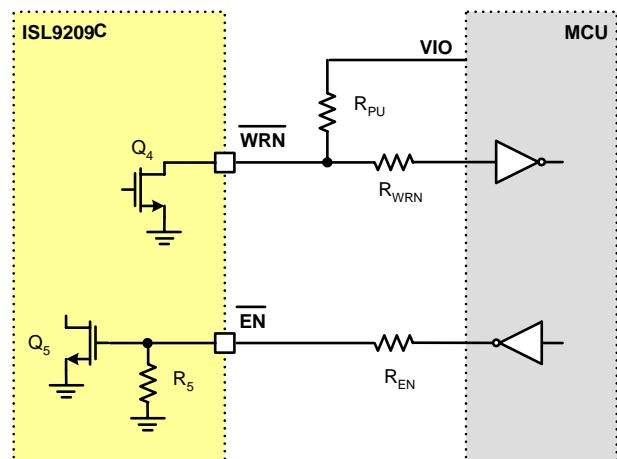

FIGURE 24. DIGITAL SIGNAL INTERFACE BETWEEN ISL9209C AND MCU
The ISL9209C has the enable (EN) and the warning (WRN) digital signals that can be interfaced to a microcontroller unit (MCU). Both signals can be left floating if not used. When interfacing to an MCU, it is highly recommended to insert a resistor between the ISL9209C signal pin and the MCU GPIO pin, as shown in Figure 24. The resistor creates an isolation to limit the current, in case a high voltage shows up at the ISL9209C pins under a failure mode. The recommended resistance ranges from 10kΩ to 100kΩ. The selection of the REN is dependent on the IO voltage (VIO) of the MCU. REN should be selected so that the ISL9209C EN pin voltage is above the disable threshold when the GPIO output of the MCU is high.